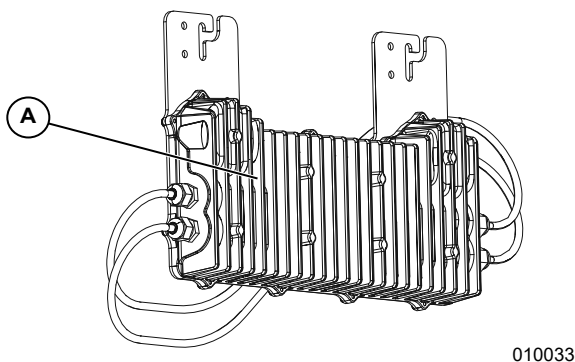

Figure 7-1. Heatsink Fins
See **Figure 7-1**. To ensure maximum performance, keep heatsink fins (A) free of leaves and other debris.